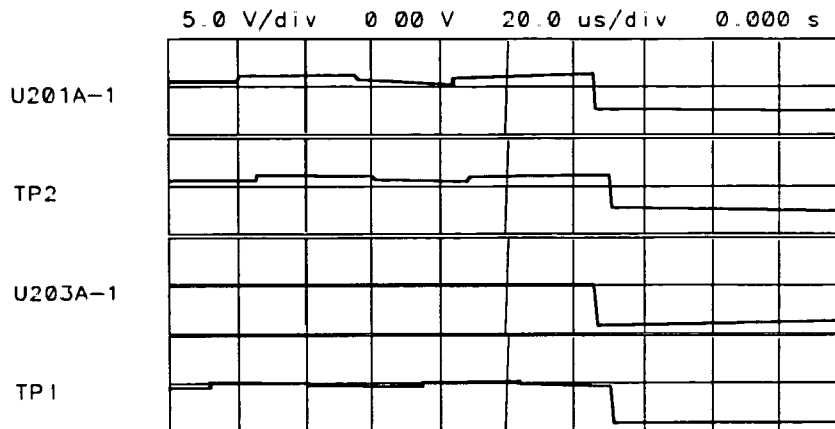

Figure 10-7. Expanded X/Y Line Generator Waveforms
12. Figure 10-7 illustrates the waveforms in step 11 expanded to show relative timing. the second and fourth traces are delayed by 5 ms from the first and third. The oscilloscope settings are changed as follows: